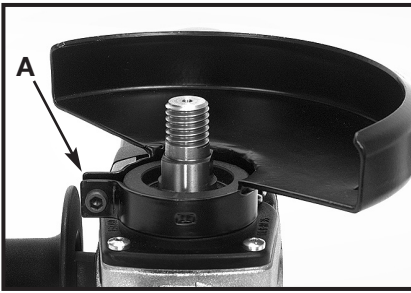
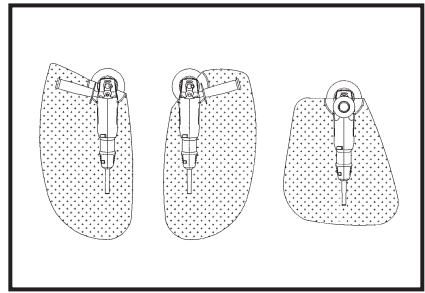

Fig. 3A
Fig. 4
3. Seat the guard on the mounting flange. Rotate the guard to a position that will place the guard between the operator and the grinding wheel (or any other accessory requiring a guard). Tighten the clamp screw (A) Fig. 3A to secure the guard in proper position (see Fig. 4).
⚠ WARNING Always make sure that the wheel guard is positioned between the operator and the wheel, so that flying chips or pieces of a wheel that might break will be deflected away from the operator (see Fig. 4).